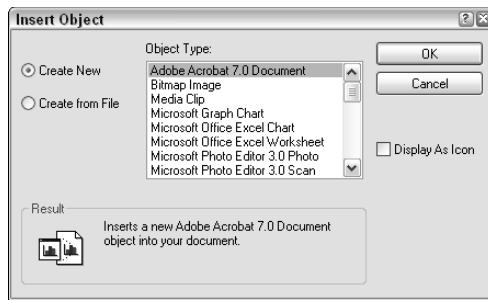

**Figure 27-10:** The Insert Object dialog box.
1. From your drawing, choose Insert ⇨ OLE Object to open the Insert Object dialog box, as shown in Figure 27-10. This starts the INSERTOBJ command. (The entries listed in this dialog box depend on the applications that you have installed on your computer.)